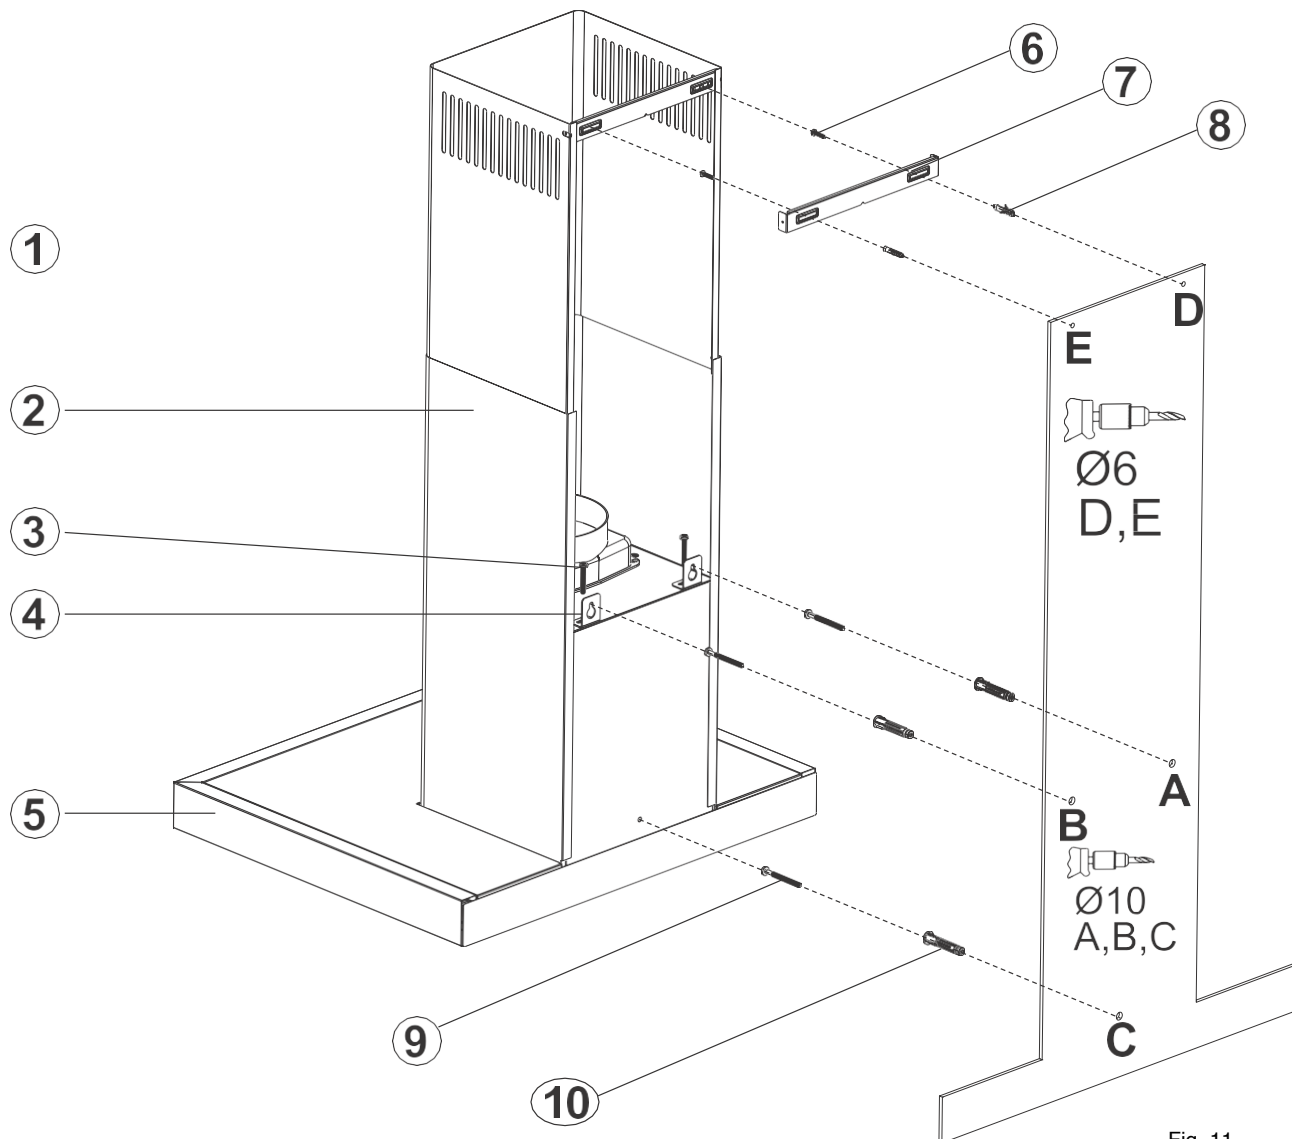

Fig. 11
5. Attach the mounting brackets to the top of the hood assembly using the M5x35 mounting bracket screws as shown in (Fig. 11).
1. Mark the position of the chimney bracket at the upmost point of where the chimney is to be sited. Your hood is provided with a chimney extension that slides up and down to provide a total height from the bottom of your hood to the top of between 655mm and 1035mm in standard form (Fig. 11).
2. Drill your holes shown as D and E on Fig.11, insert the wall plugs and secure the chimney bracket to the wall.
4. Slide the chimney extension inside the chimney as shown in Fig. 11 ensuring the air slats are uppermost.